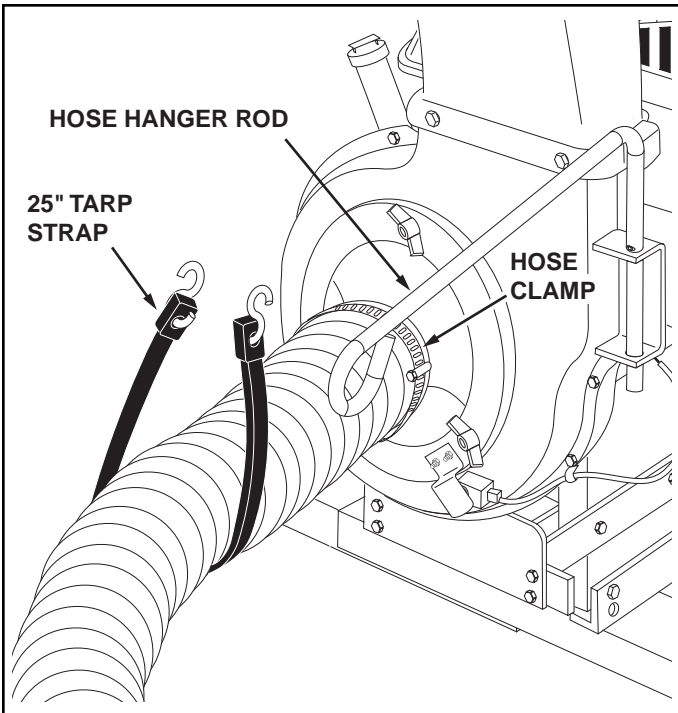

FIGURE 19
33. Place a hose clamp onto one end of hose. Push hose onto hose adapter (nozzle). Tighten hose clamp onto hose and hose adapter. **Do not** collapse hose adapter when tightening clamp. See figure 19.
34. Place the hose hanger rod assembly into the hose hanger bracket on the impeller housing assembly. See figure 19.
35. Loop the 25" tarp strap under the hose. Hook to the hose hanger rod assembly. See figure 19.